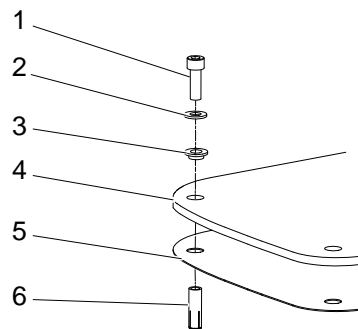

Fig. 5-56 Temporarily attachment
7. Mount the insulation washer (5) between the plate and the floor.
9. Drill just 1 hole (C) in accordance with Fig. 5-56 *Temporarily attachment*. The 3 remaining holes shall be drilled after the adjustment.